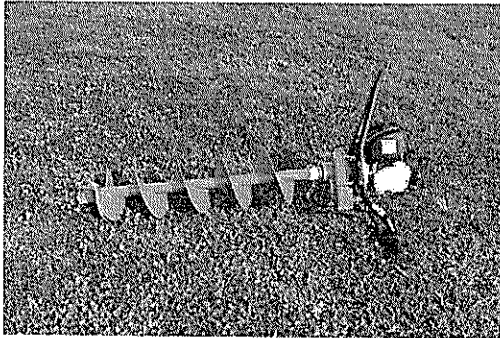

FIGURE 26
- c. Store Hole Digger connected only to lead auger with engine spark plug facing upward to minimize potential for crankcase oil entering combustion chamber and causing hydraulic lock up. FIGURE 26